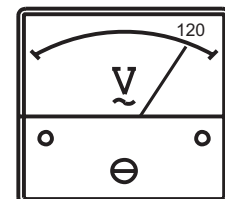

Figure 59. AC Voltmeter
5. The **AC voltmeter** (Figure 59) indicates the phase-to-phase voltage of the generator's output terminals.